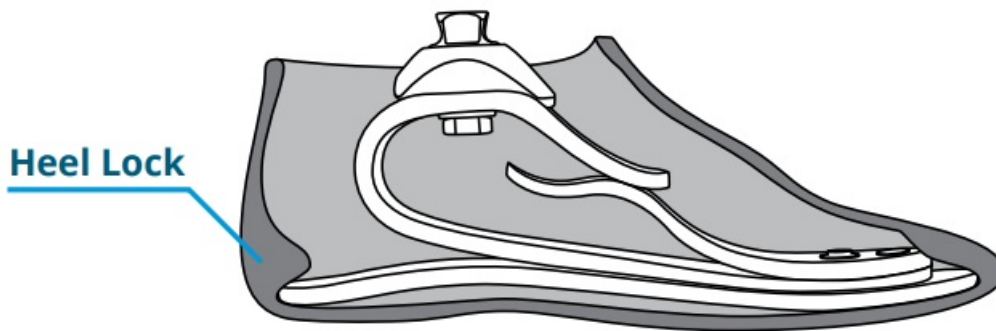

Figure 3
2. The distal end of the socket should be no greater than  $\frac{3}{8}$  inch (10 mm) from the dorsal surface of the upper carbon plate or attached foam bumper (Figure 3). This allows proper function of the toe. A piece of  $\frac{1}{4}$  inch (6 mm) Poron with adhesive backing is supplied, but crepe applied to the distal end of the socket can also be used to tighten the gap and to fine tune the dorsiflexion characteristics of the foot.
3. If lower build height is needed, the foot may be placed in contact with the socket, but a piece of PTFE film tape, such as Shearban® must be used in the interface and will need more frequent replacement. The patient may also note an audible contact between the foot and socket when thinner materials are used in the interface. It should also be noted that the foam interface should extend from the anterior contact point of the socket back to a point on the pylon that prevents direct contact with the socket (see Poron location in Figure 3).